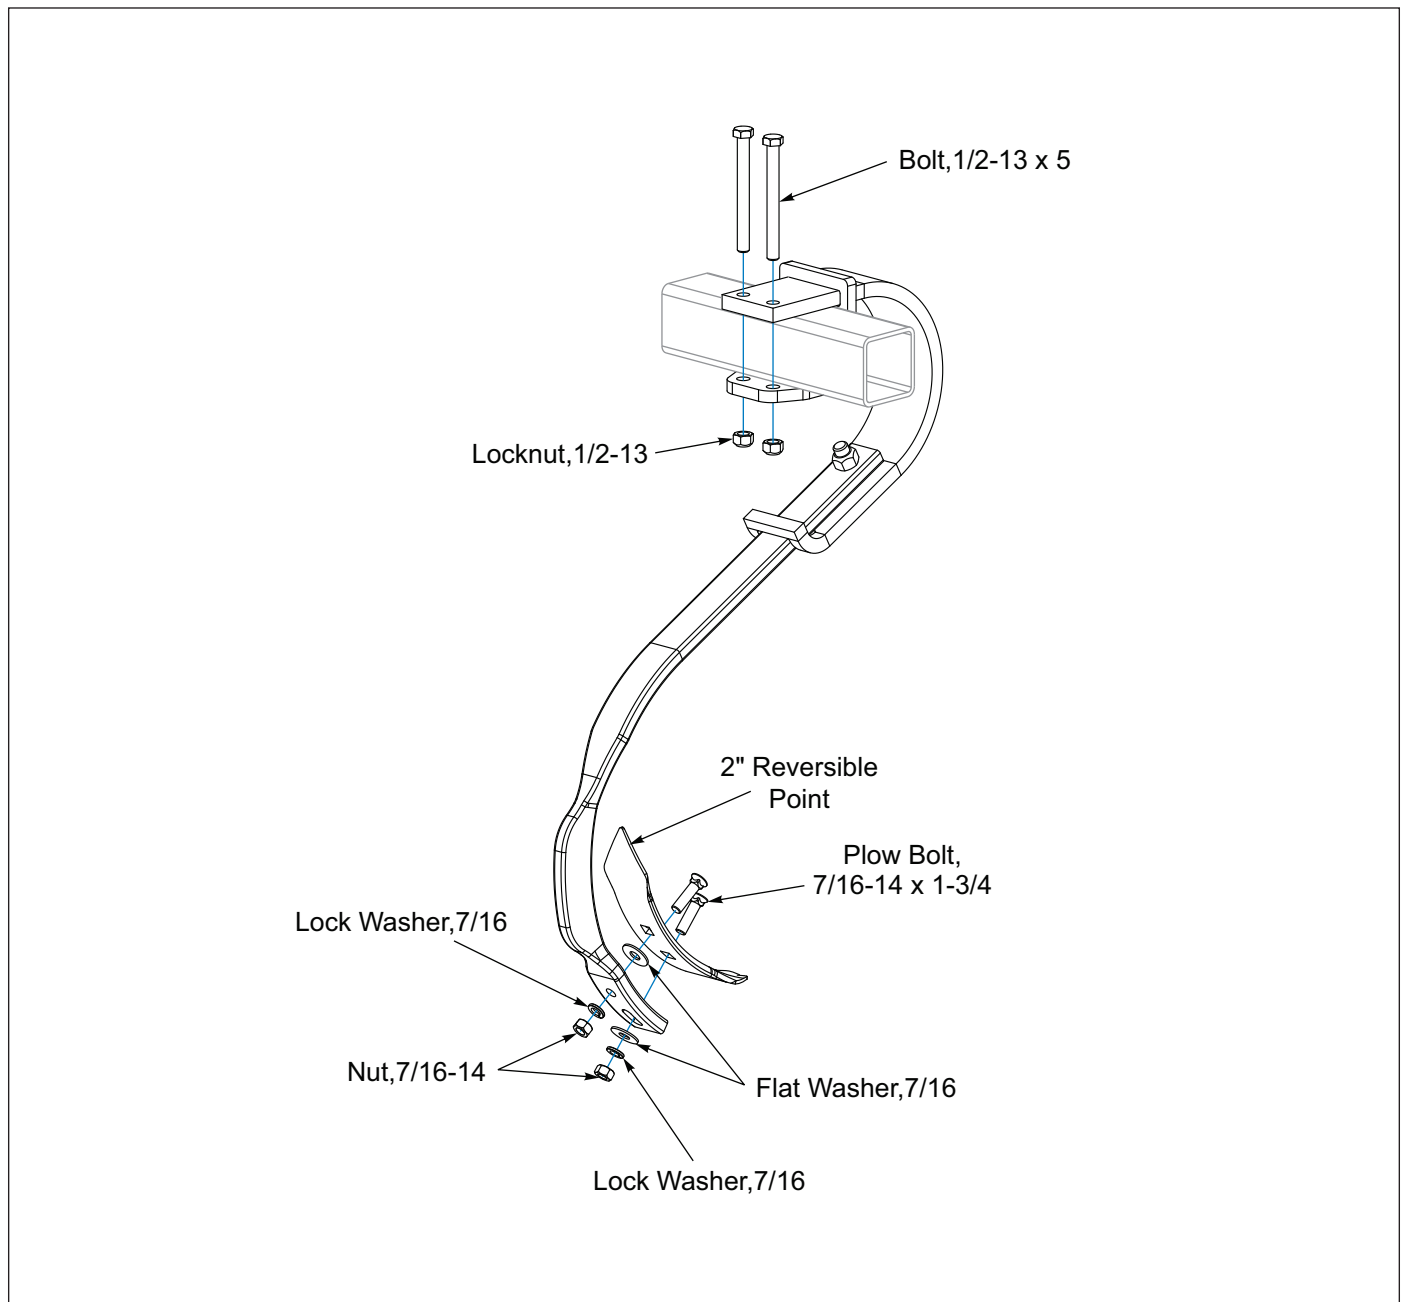

Figure 2-60: Wing Shank Installation
2. Assemble Points to Shanks as shown in **Figure 2-60**.